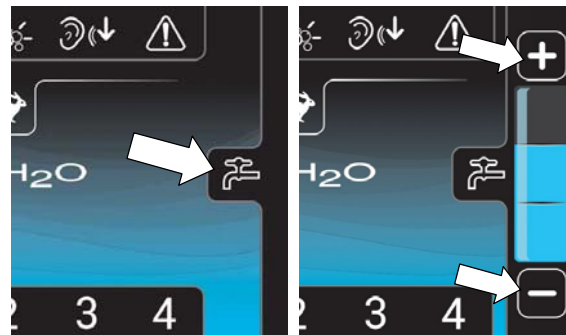

FIG. 49
4.  Press the solution flow icon to display the solution flow scale (Figure 49). Press the (+) symbol to increase solution flow. Press the (-) symbol to decrease the flow solution or to turn it off.